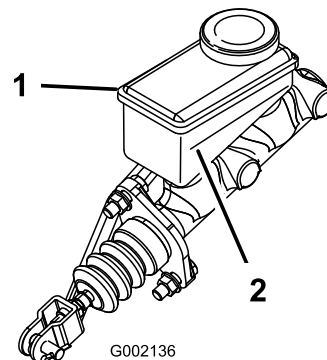

Figure 128
5. Look at the outline of the fluid level at the side of the reservoir (Figure 128).
- B. Add DOT 3 brake fluid to the reservoir until the fluid level is above the Minimum line (Figure 128).